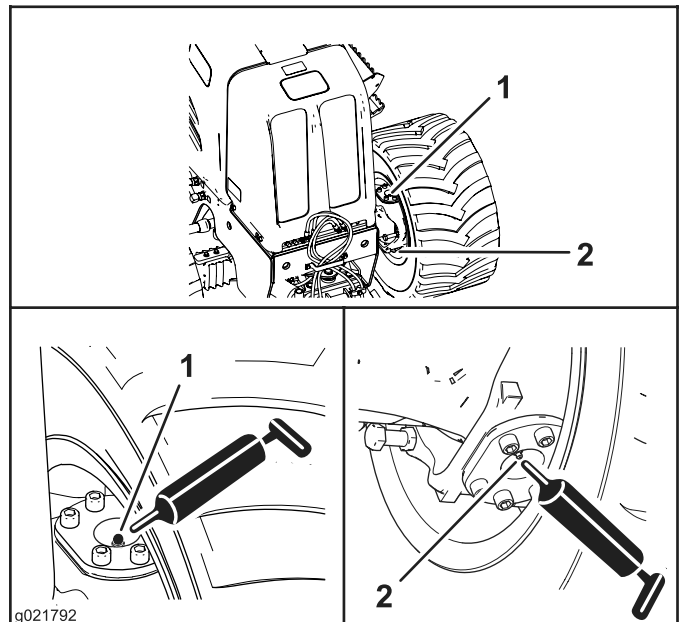
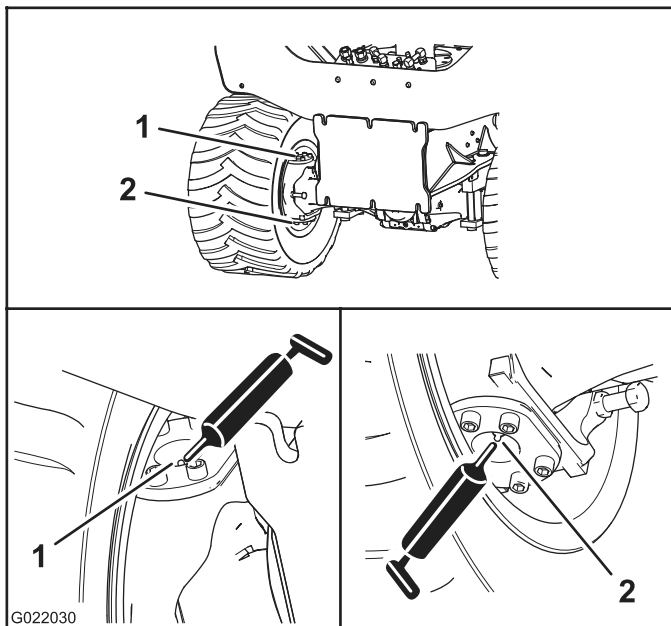

Figure 32
Figure 33
2. Connect the grease gun to the grease fittings for the upper and lower pivots; apply 2 or 3 pumps of grease to each fitting (Figure 32 and Figure 33).